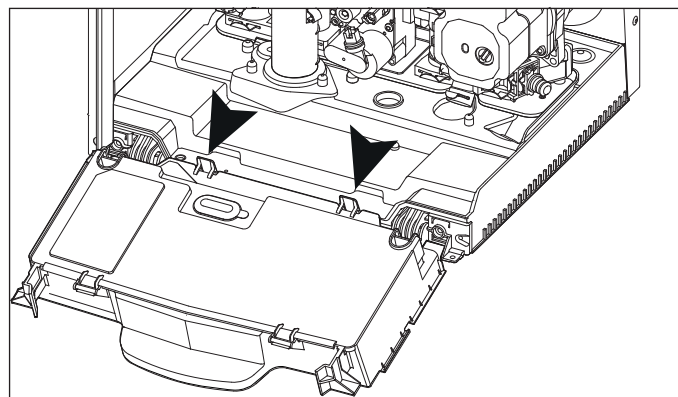

Figure 66 - 120V Connections for DHW and CH Circulators
5. Disconnect the two clips See Figure 66